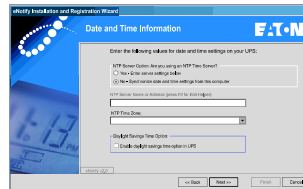

Figure 20. Set Date and Time
- On the Date and Time Information screen (Figure 20), configure the date and time settings for the UPS. Enter the optional Network Time Protocol (NTP) Server information and the NTP Time Zone, and select whether to enable Daylight Savings Time. Click **Next**.